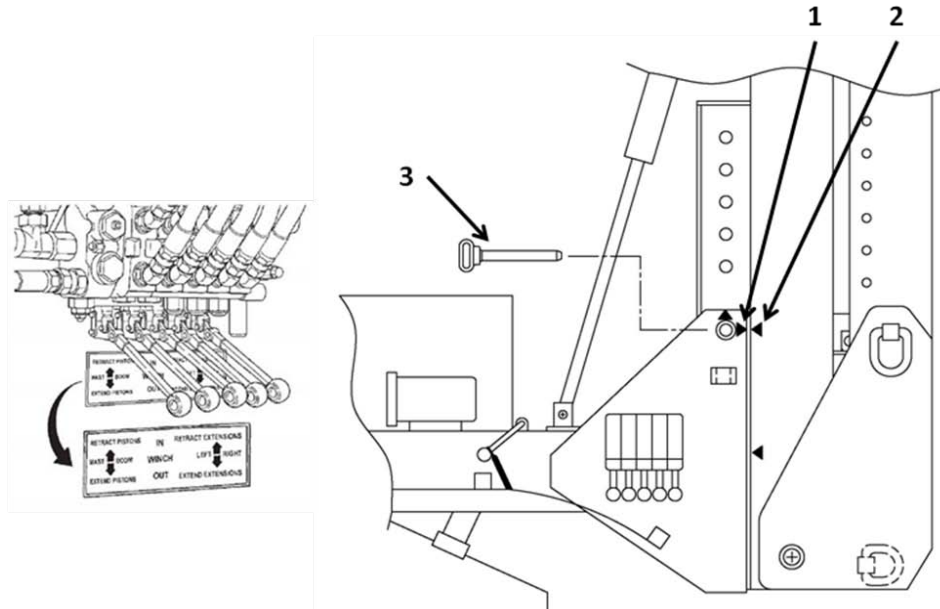

Figure 4 - Pivot Hole Alignment and Pivot Pin
- Using valve control levers, MAST EXTEND to line up pivot arrows (1 and 2). (figure 4)
- Insert left and right pivot pins (3) into aligned holes (1 and 2) (figure 4).
7. Remove pivot pins (3) (figure 4).